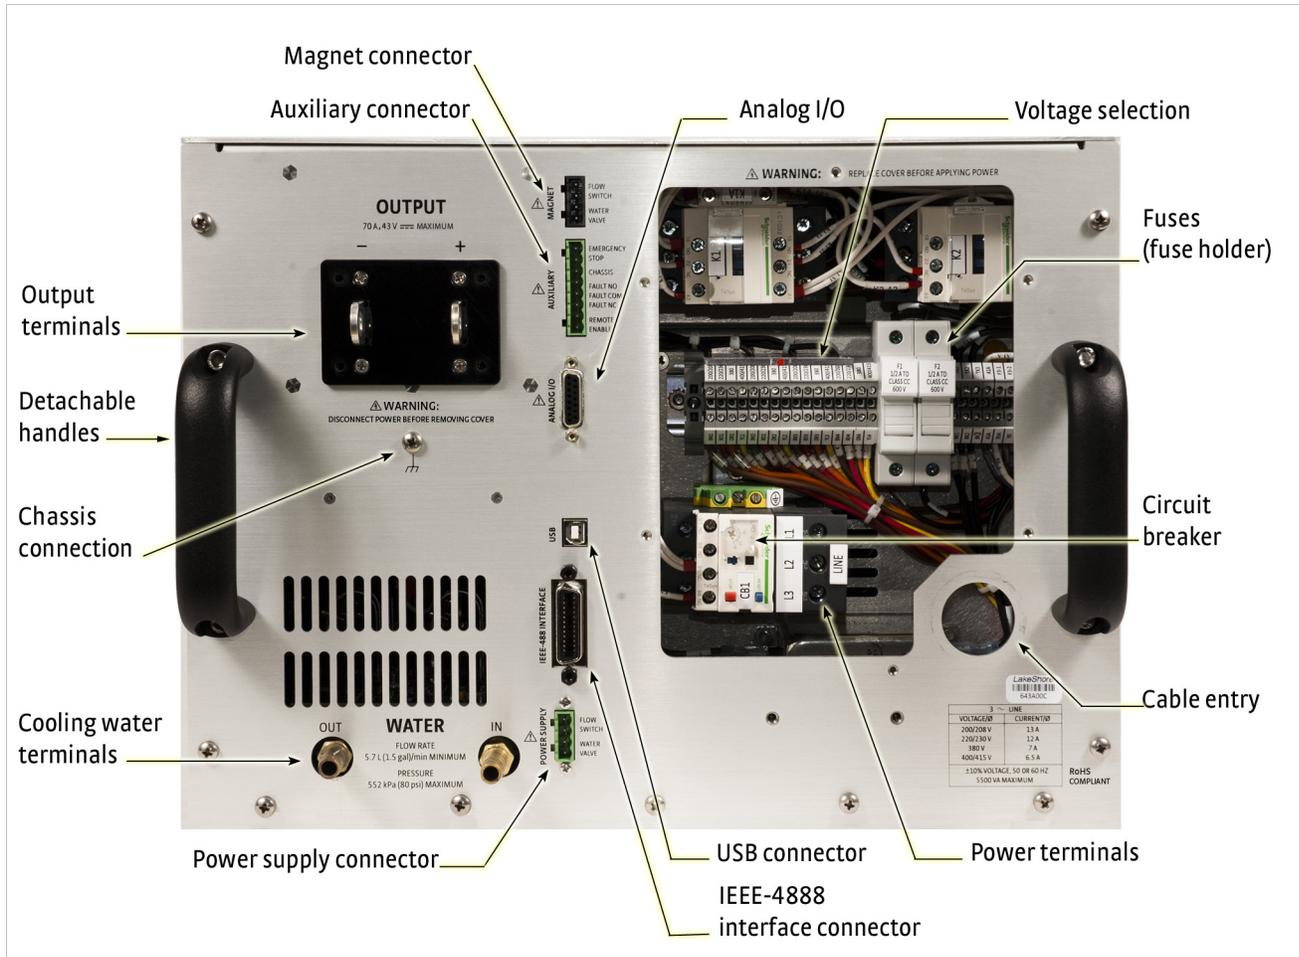
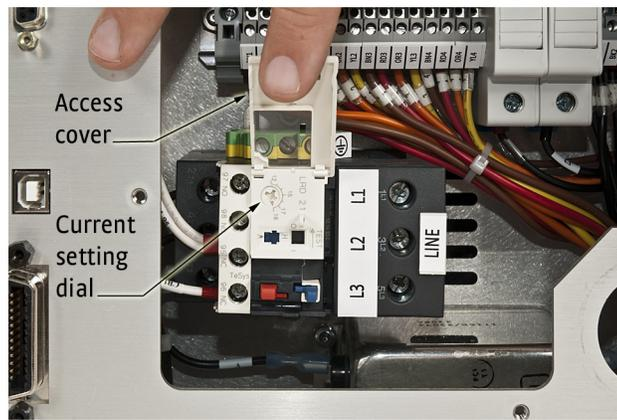
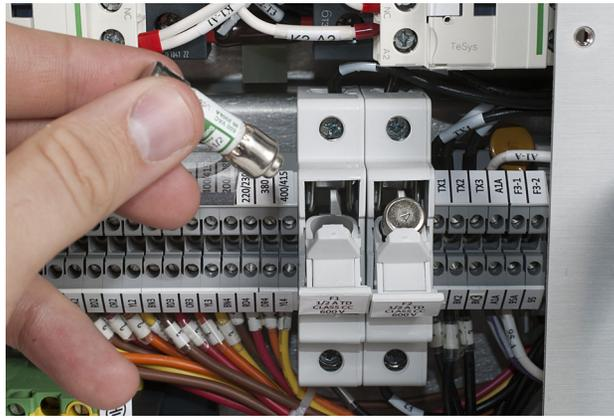

FIGURE 6-2 Model 643 rear panel (shown with wiring cover removed)
FIGURE 6-4 Circuit breaker
FIGURE 6-5 Fuse drawer
The Model 643 may be configured for four basic AC power configurations: 200/208 VAC, 220/230 VAC, 380 VAC and 400/415 VAC. Proper voltage selection must be made before connection to the power mains. Each configuration requires the appropriate wiring within the power wiring access panel on the rear of the instrument. Nominal line voltages and appropriate selections are shown in TABLE 6-1. Refer to section 3.4.1 for further details. See FIGURE 6-2 for general locations.
5. Refer to FIGURE 6-2 to locate the fuse detailed in FIGURE 6-4.
6. Lift the fuse access door and visually confirm the setting as shown in FIGURE 6-4.
5. Locate the two fuse holder assemblies as shown in FIGURE 6-2 and in FIGURE 6-5.
7. Check the fuse for continuity. Replace fuse(s) if necessary. Fuses should be replaced in pairs. Fuses are inserted small-end first as shown (FIGURE 6-5).